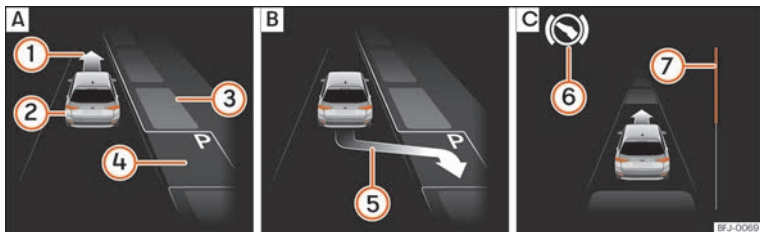
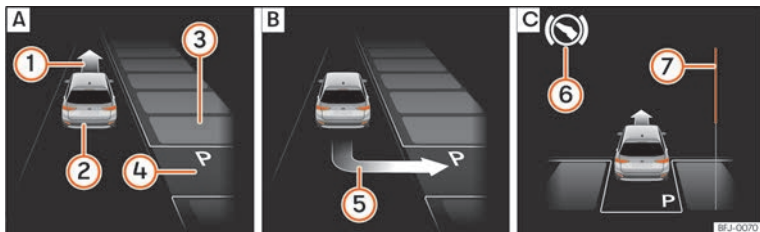

Fig. 284 On the instrument panel display: parallel parking. **[A]** Finding a parking space. **[B]** Parking position. **[C]** Manoeuvring.
Fig. 285 On the instrument panel display: angle parking. **[A]** Finding a parking space. **[B]** Parking position. **[C]** Manoeuvring.
- Look at the display on the instrument panel to see if the space has been detected as “appropriate” and if the correct position for parking has been reached » Fig. 284 [B]
or » Fig. 285 [B]. The space is considered “appropriate” if the display on the instrument panel shows the message to park ⑤.
• Reverse until the continuous ParkPilot signal sounds; **OR:** reverse until the indication to move forward appears on the instrument panel display »» Fig. 284 [C] or »» Fig. 285 [C]; **OR:** reverse until the **Park Assist finished** message appears on the instrument panel display. The progress bar ⑦ indicates the distance to cover »» page 312.
• Press the brake pedal until the parking assist system completes the steering wheel turns; **OR:** until the symbol ⑧ goes out on the instrument panel screen.
• Move forward until the continuous ParkPilot signal sounds; **OR:** move forward until the reverse indication appears on the instrument panel display. The Park Assist system steers the vehicle forward and back until it centres it in the space »» Fig. 284 [C] or »» Fig. 285 [C].
»» Fig. 284 ⑦ and »» Fig. 285 ⑦ on the screen of the instrument panel displays the relative distance to be covered. The greater the distance, the fuller the progress bar. When driving forward, the content of the progress bar decreases upwards, and when reversing, it decreases downwards.